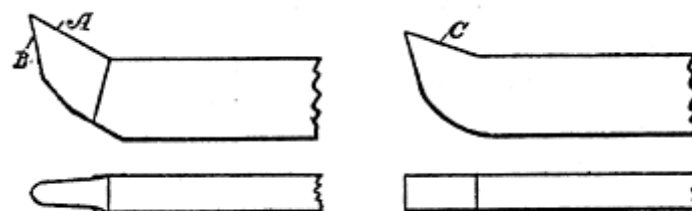

Fig. 24. Tool for Wrought Iron. Fig. 25. Tool for Cast Iron.
Fig. 24 shows side and top views of a tool designed to rough off wrought iron, or a tough quality of steel. You will notice, that what is called the top rake (A) is very pronounced, and, as the point projects considerably above the body of the tool itself, it should, in practice, be set with its cutting point above the center.